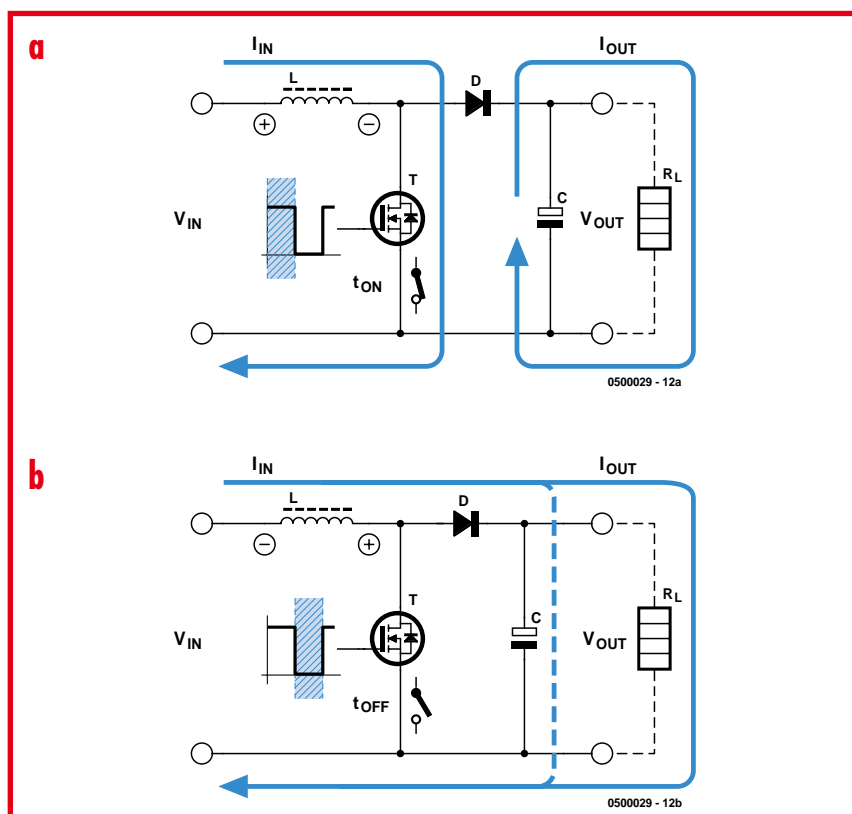

Figure 1. The step-up converter principle: Switch-on phase (a) and Switch-off phase (b).
The principle of the step-up converter operation is shown in **Figure 1**. When the power switch (MOSFET T) conducts (**Figure 1a**) current flows through the coil and produces a magnetic field. The anode of the diode (D) will be at ground potential (almost) so it will not be conducting and any